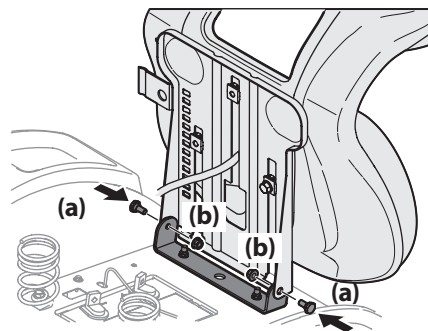

Figure 2
4. Then with the previously removed shoulder bolts (a) and flange lock nuts (b) secure one side of the seat and seat bracket. While supporting the seat, remove the Phillips screwdriver and secure the other side of the seat. Be careful not to crimp or damage the wire harness while installing the seat. See Figure 2. Torque to 84-103 in-lbs (9.5-11.6 N-m).